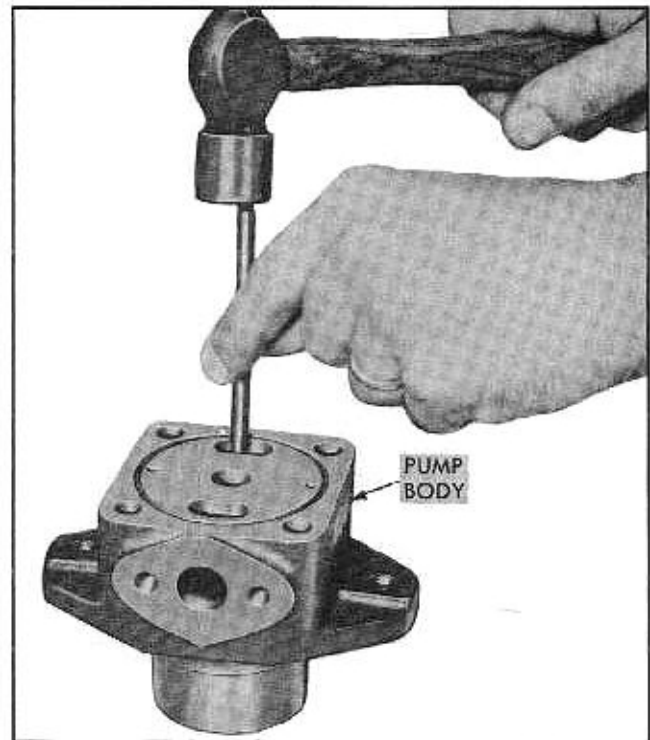

Fig. 9-80 Removing Oil Seal from Pump Body
15. Remove oil seal from body with a long punch inserted through large holes in machined face of the pump body (Fig. 9-80).